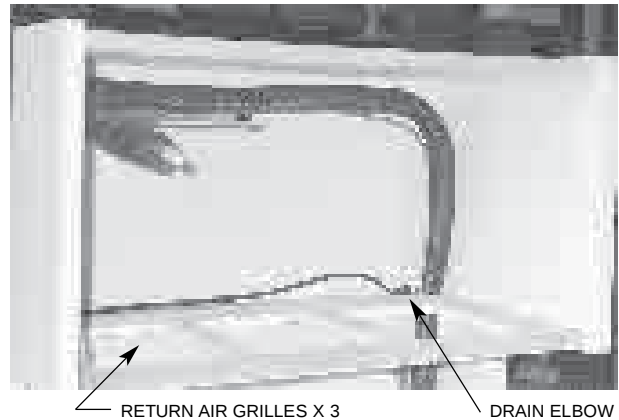

Figure 7
Provided the cupboard is 540mm wide or more, the three grilles can be installed side by side in the underside of the cupboard. (Refer fig. 7)
■ **Now Install the Air Handler** (refer fig. 7 - 13)